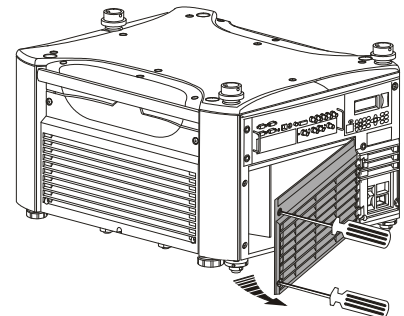

Figure 4.3. Open Lamp Door
Using a #2 Phillips screwdriver, loosen the ¼-turn lock screws (2) securing the lamp door, which is located at the rear of the projector below the input panel. See **Figure 4.3**.